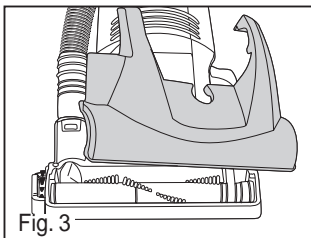

Fig. 3
- 3) Lift and remove brush roll cover (Fig. 3).
- 3) Hose connector – twist hose from connector. Remove blockage and replace hose. For better access, unclip sides and clear blockage. Clip back into place and reconnect hose at both ends (Fig 3).